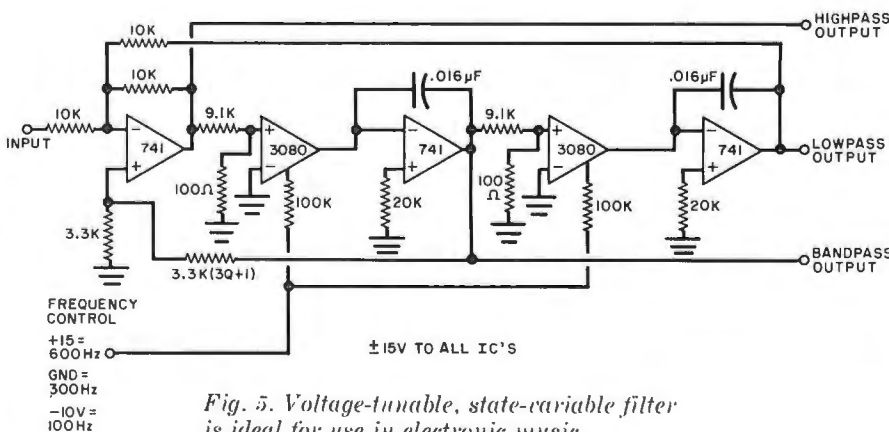

Fig. 5. Voltage-tunable, state-variable filter is ideal for use in electronic music.
**Voltage Control.** To voltage control a universal filter, replace the fixed or variable frequency determining  $R$  resistors with something that looks like an electrically variable resistor. One very good choice is the CA3080 transconductance amplifier, and a voltage controlled universal filter can be built as shown in Fig. 5. This circuit provides a linear voltage versus frequency control; and frequency ranges of 100:1 and even 1000:1 are possible with careful design. One important design detail is to keep the input voltage on the 3080 positive input to 100 millivolts or less peak-to-peak for good linearity. ◇